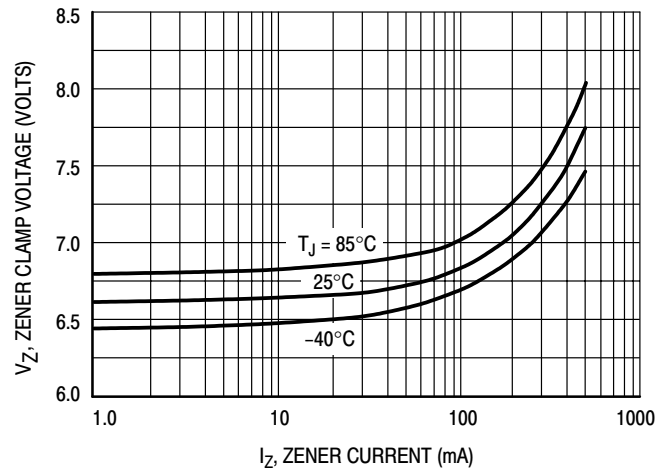

Figure 7. Zener Clamp Voltage versus Zener Current
7. Using the max output current calculated in step 1, check Figure 7 to insure that the range of zener clamp voltage over temperature will satisfy all system & EMI requirements.